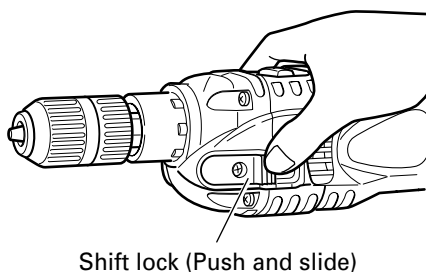

Fig. 10
7. High-speed/Low-speed changeover (Fig. 10)
Prior to changing speed, ensure that the hammer drill has come to a complete stop. To change speed, depress the shift lock and slide in to the appropriate direction, as indicated by the arrow in Fig. 10. The numeral "1" engraved in the hammer drill body denotes low speed, the numeral "2" denotes high speed.